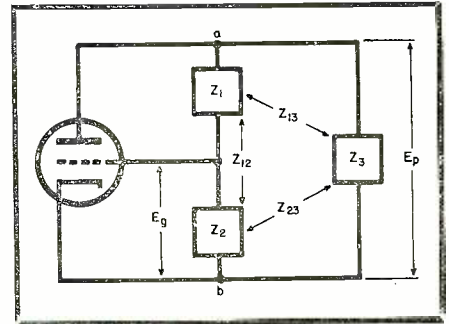

Fig. 5. Block diagram of general feedback oscillator with impedances indicated.
To apply the foregoing information to the general feedback oscillator, refer to the block diagram shown in Fig. 5, with  $Z_1$  and  $Z_2$  forming the feedback network and  $Z_3$  providing the tank circuit. The mutual impedances are included in this diagram for the sake of generality and may or may not exist in any particular circuit application.
A number of methods have been found for improving the frequency stability of an oscillator by connecting certain reactances in the electrode connections to eliminate or at least partially compensate the reactive effects of the tube. Referring to the basic circuit of Fig. 5, the condition of oscillation may be either expressed by Eq. (2) or (6). The well known circuits of Hartley, Colpitts, Meissner and Barkhausen are all represented with the aid of this circuit diagram and appropriate circuit element values. The frequency of oscillation of the particular circuit can be determined by setting the imaginary part of the product  $A \cdot B$  equal to zero.